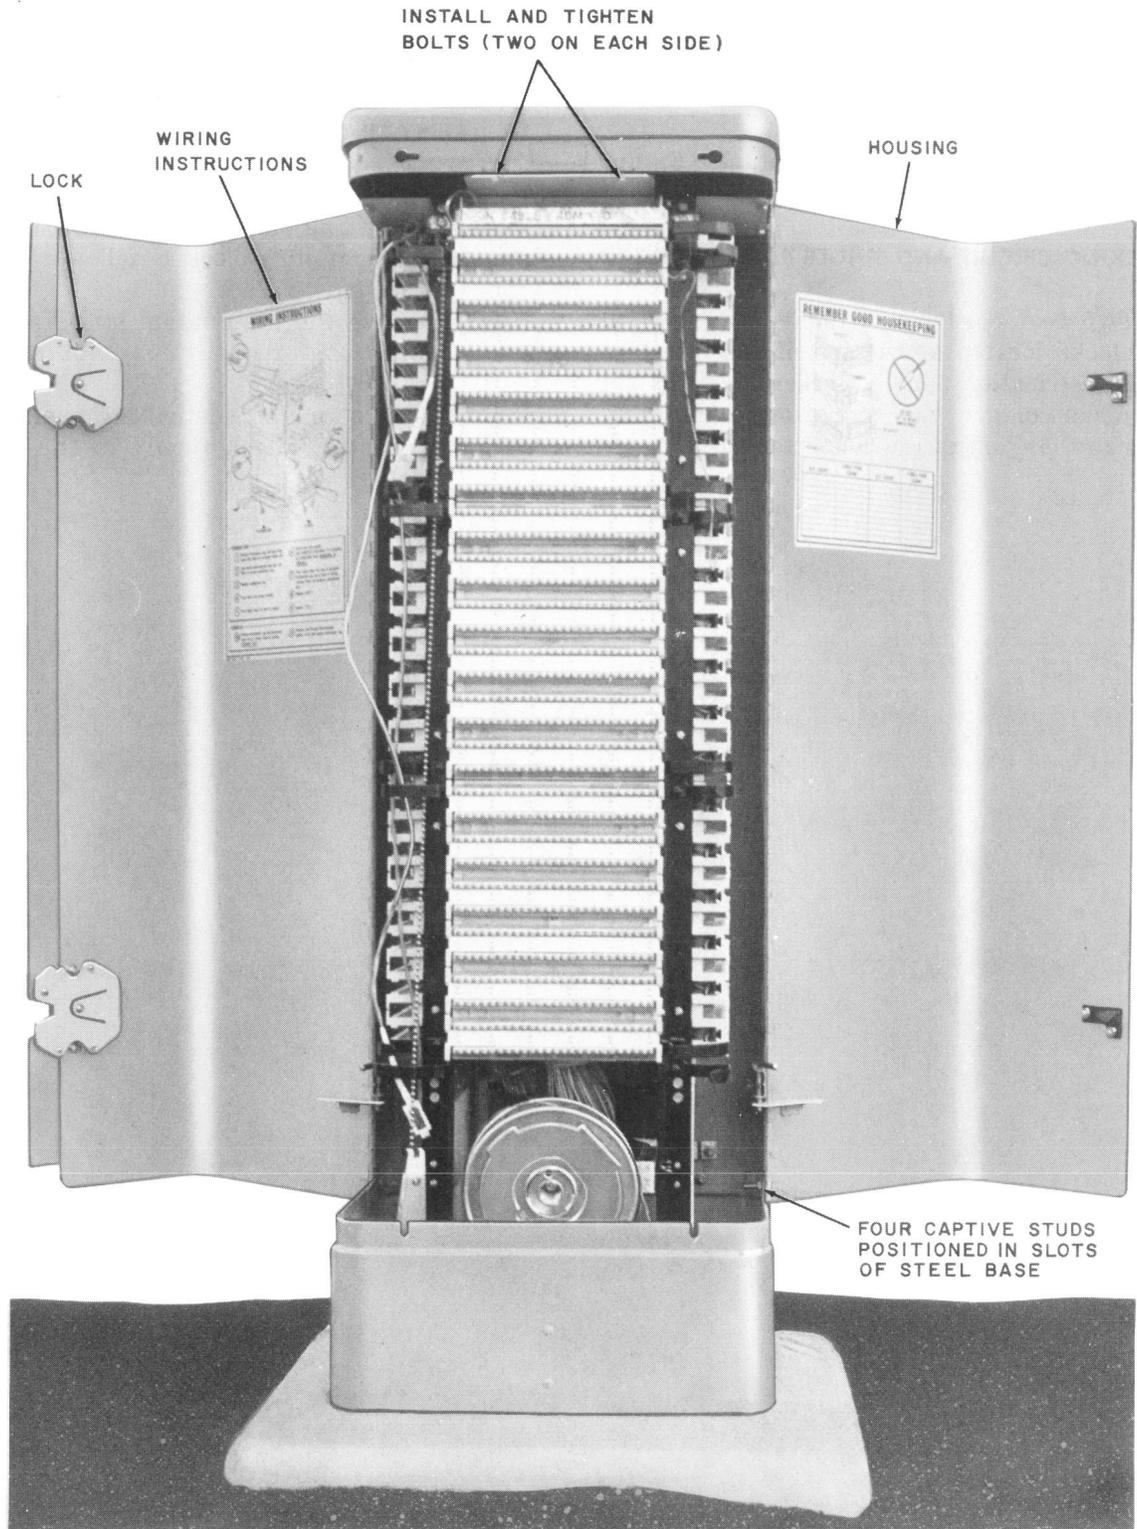

Fig. 27—Installed Housing
14.01 Install the closure over the frame (Fig. 27) and secure at the top with eight bolts. Replace the test cord brackets when installing the bolts above the distribution panel.